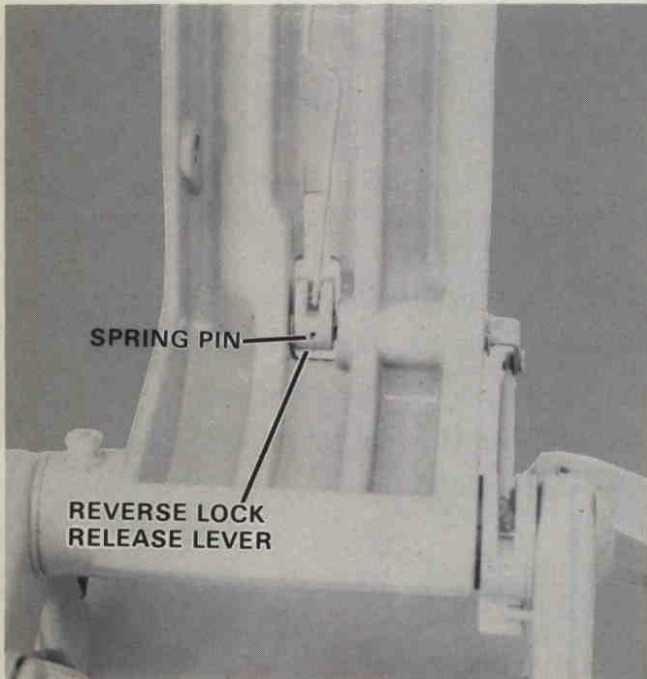

Figure 8. Removing Spring Pin in Reverse Lock Release Lever.
D. Drive out spring pin securing reverse lock release lever to reverse lock intermediate lever. Figure 8.